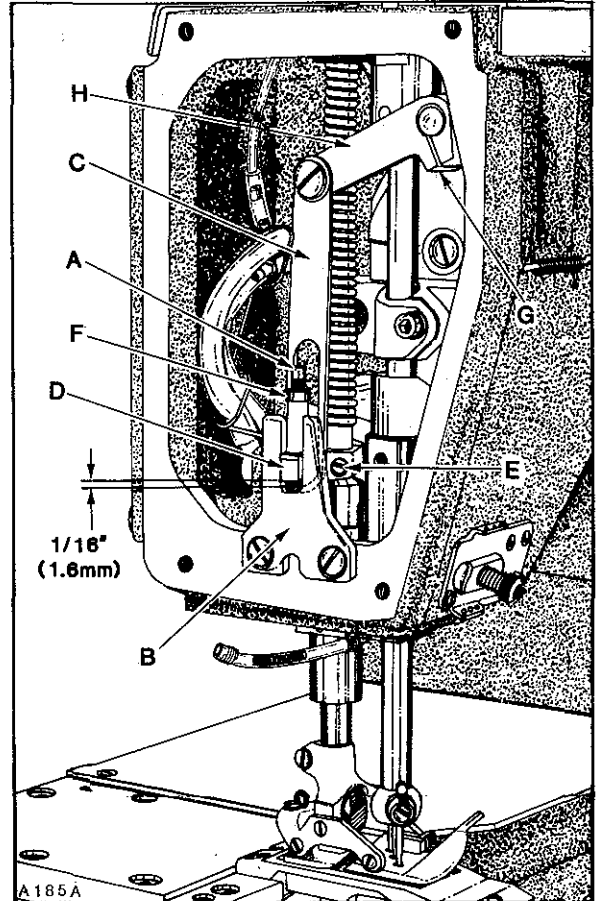

Fig.20
With needle bar at bottom of stroke and presser foot resting squarely on throat plate, there should be a minimum clearance of 1/64 inch (.4mm) between the bottom of screw (A, Fig. 20) and bottom of slot in presser bar guide plate (B). At this time, there should be at LEAST 1/32 inch (.8mm) clearance between bottom of presser bar guide and top of lower presser bar bushing. There should also be 1/16 inch (1.6mm) clearance between bottom of slot in lifter lever link (C) and bottom of presser bar guide (D) when foot lifter lever is released. If adjustment is required, proceed as follows: